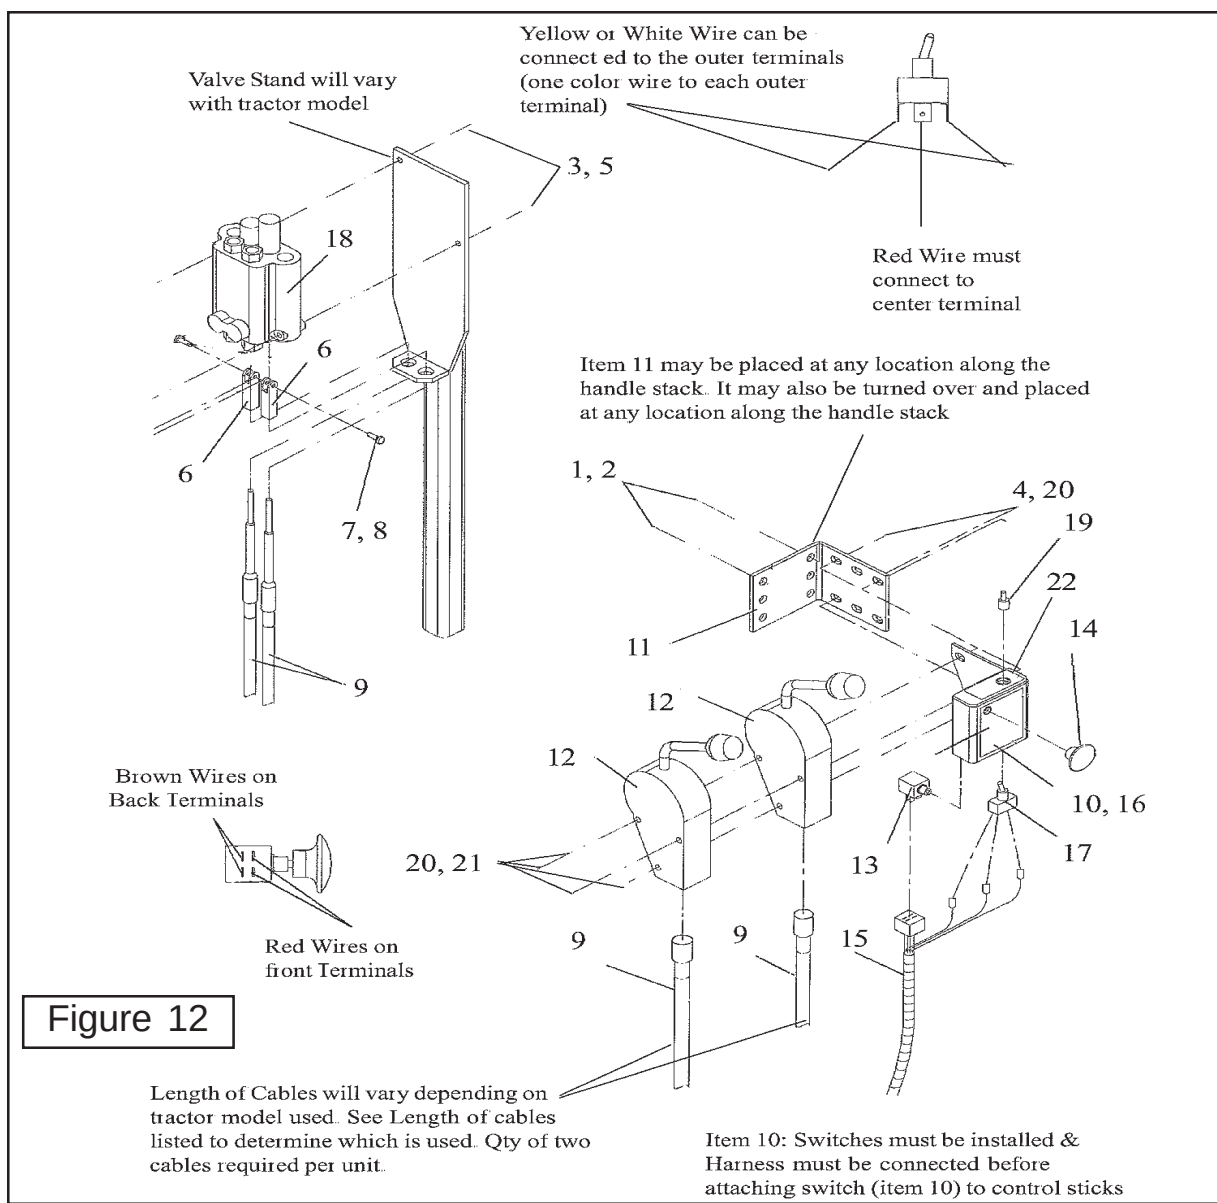
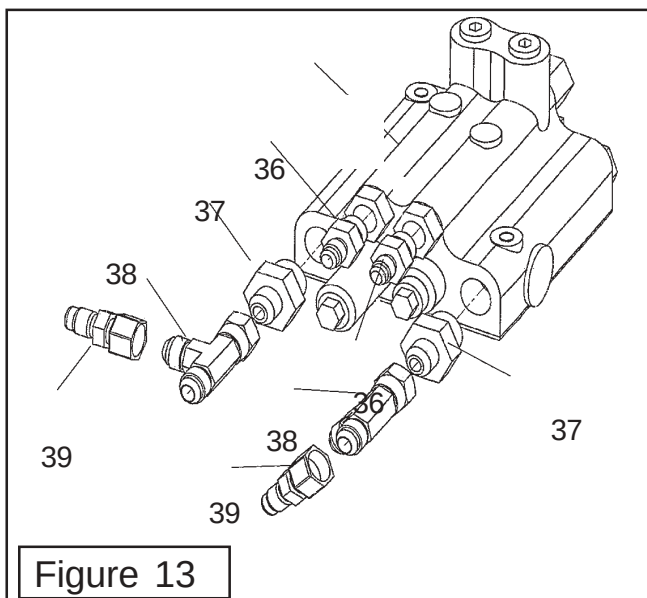

Figure 12
Figure 13
The two spool valve assembly shown (See Figure 13) shows the components that are replaceable in the two spool control valve. Study the drawings, the torque specification if any are listed for figure 12. The fittings are shown in figure 13. When working on valve always clean the exterior of the valve and hoses before disconnecting them. After disconnecting the hoses cap them with clean caps to keep contamination out of hydraulic system. When disassembling the valve make certain the OD of it and all work areas are clean, do not use dirty tools or rags that will leave lint. Only lint free towels (paper or suitable type) can be used to wipe down the hydraulic system. If any components need to be held in the valve body during assembly petroleum jelly can be used. DO NOT Exceed the recommended torque setting listed in figure 12. When removing plug item 11 watch the qty of washers that are removed, this amount is what should be started with when reassembling plug.